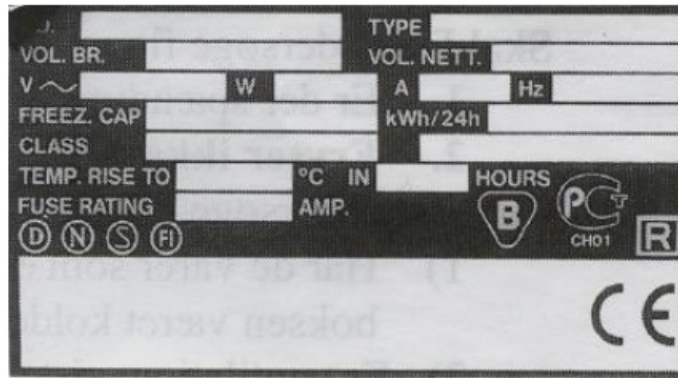

Fig. 1
- Information about refrigerant type and amount will be found on the type plate on the rear of the appliance (Fig. 1).